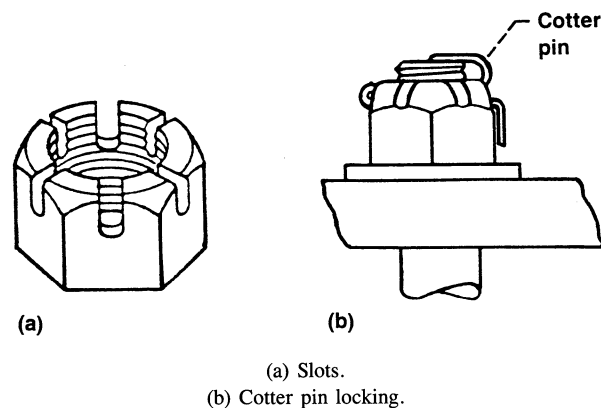

Figure 6.—Castellated nut.
**Castellated nut.**—The castellated nut normally has six slots as shown in figure 6(a). The bolt has a single hole through its threaded end. The nut is torqued to its desired torque value. It is then rotated forward or backward (depending on the user's
preference) to the nearest slot that aligns with the drilled hole in the bolt. A cotter pin is then installed to lock the nut in place as shown in figure 6(b). This nut works extremely well for low-torque applications such as holding a wheel bearing in place.